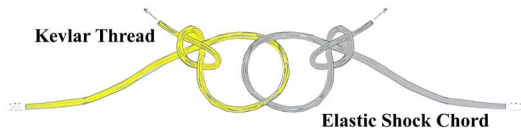

Figure 8
- **Step 14** Tie a slip knot in the free end of the Kevlar thread, as shown in Fig. 8. insert one end of the elastic shock chord through the loop and tie a slip knot in it, then pull the two knots tight against each other. Apply a layer of thinned glue to the knot to secure it. Let this dry, then attach the barrel end of the remaining snap link to the free end of the elastic chord.